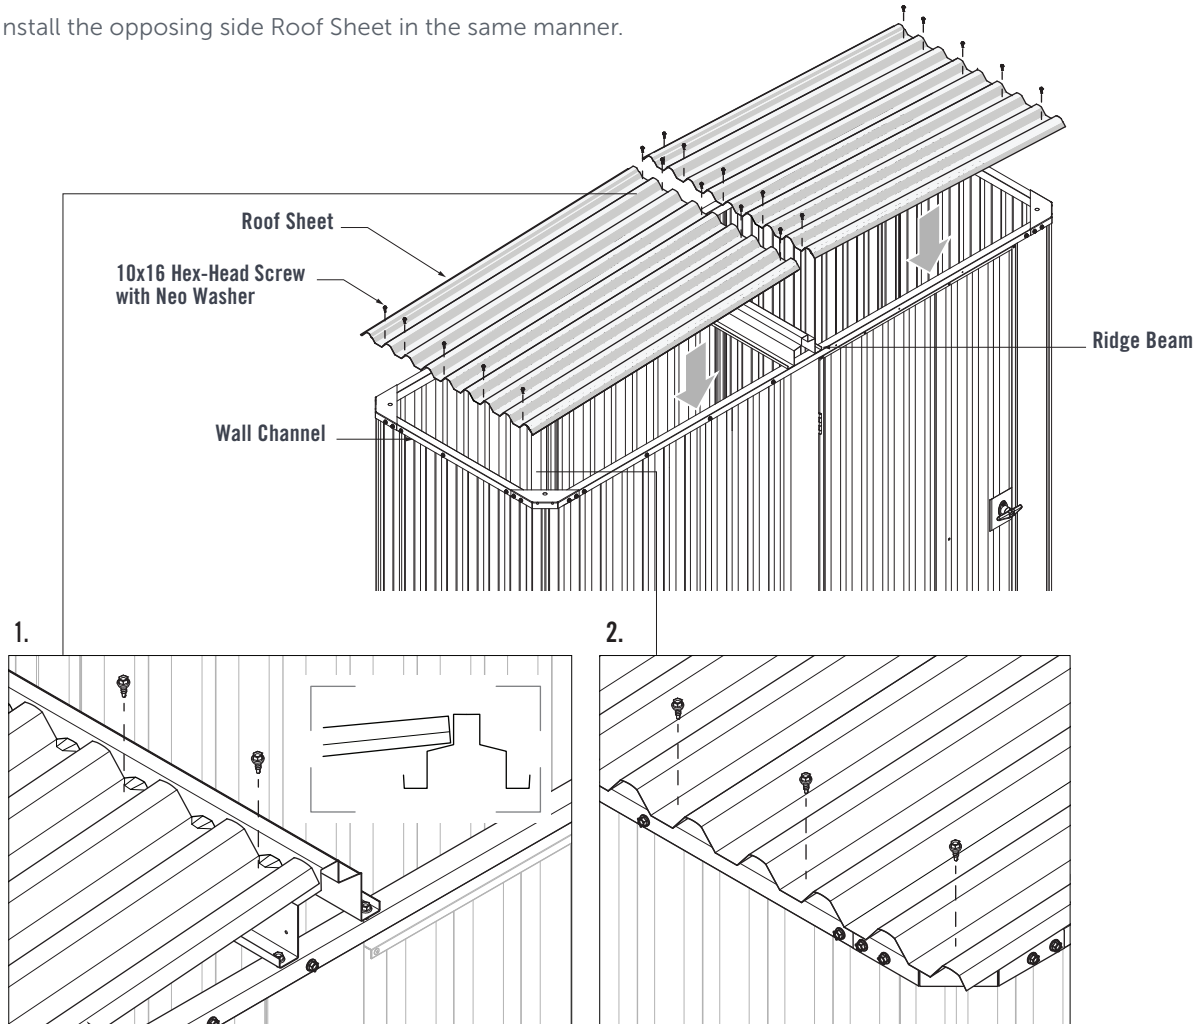

FIGURE 7.3
Lay a Roof Sheet onto the Ridge Beam and Wall Channel, ensuring the overlap end of the Roof Sheet is facing the front of the shed (Figure 7.3).
1. Ensure the end of the Roof Sheet is in-line with the end of the Ridge Beam. Fasten five 10x16 Hex-Head Screws with Neo Washers through the pans of the Roof Sheet and into the Ridge Beam (Figure 7.3).
2. Fasten five 10x16 Hex-Head Screws with Neo Washers through the pans of the Roof Sheet and into the Wall Channel (Figure 7.3).